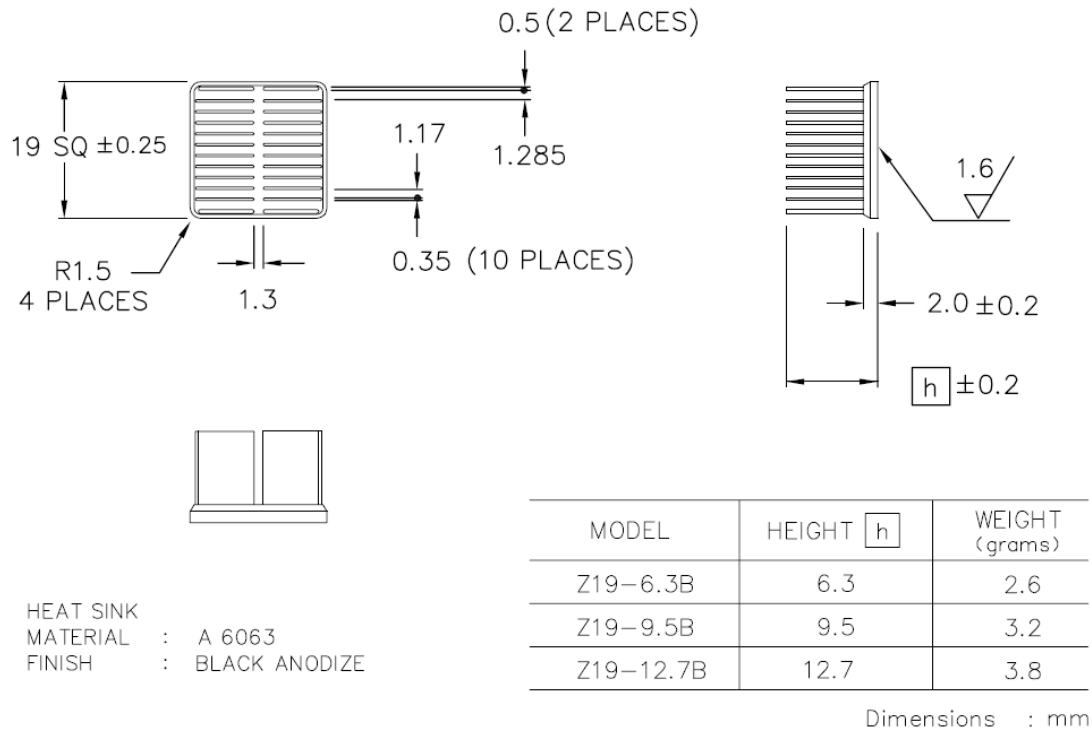
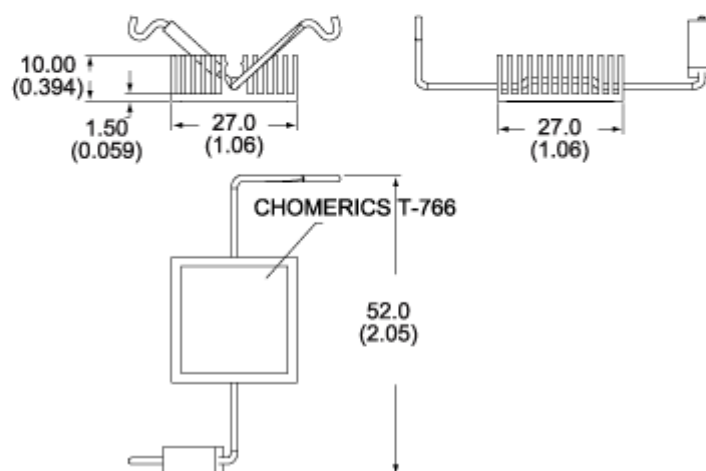

Figure 7.2. 6.3 mm Tall Passive Heat Sink (Alpha Novatech, Inc. PN: Z19-6.3B)
Figure 7.3. 10 mm Tall Passive Heat Sink (AAVID Thermalloy PN: 374324B60023G)
1. Max T_{case} is based on 27 x 27 x 10 mm Thermalloy heat sink as shown in Figure 7.3.
- 101.5 mm x 114.5 mm, 2s2p JEDEC board using 19 x 19 x 6.3 mm Alpha Novatech* heat sink as shown in Figure 7.2.
- 101.5 mm x 114.5 mm, 2s2p JEDEC board using 27 x 27 x 10 mm Thermalloy* heat sink as shown in Figure 7.3.
If required, the following extruded heat sinks are suggested for I347-AT4 thermal solutions. They can be seen as shown in Figure 7.2 and Figure 7.3 with their respective mechanical drawings.
- 19 mm x 19mm x 6.3 mm heat sink (Figure 7.2)
- 27 mm x 27 mm x 10 m heat sink (Figure 7.3)
Note: 19 x 19 x 6.3 mm Alpha Novatech HS in Figure 7.2.
Note: 27 x 27 10 mmmm Thermalloy HS in Figure 7.3.